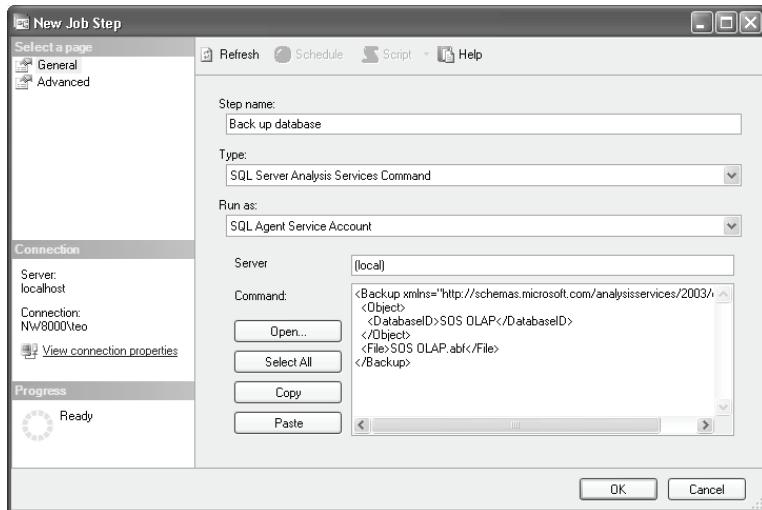

Figure 13.19 Use the SQL Server Analysis Services Command step type to automate script execution.
9. Paste the backup script you copied to the clipboard in the Command field (Figure 13.19).